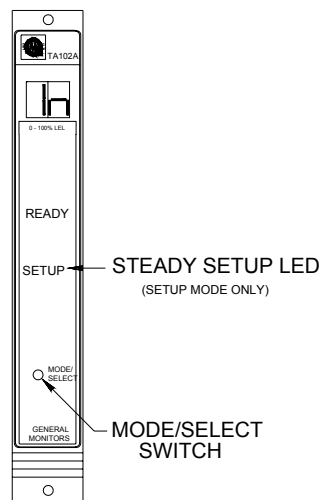

Figure 49 – Entering Inhibit Mode
- If the password option is disabled, or after the correct password has been entered, the display will indicate **In** for five seconds (Figure 49). Pressing the **Mode/Select** switch while **In** is displayed, will cause the unit to enter the **Inhibit** mode by inhibiting the alarm outputs. As the unit enters the **Inhibit** mode, the Model TA102A will automatically return to normal operation. If it is desired to enter the **Setup** Mode, do not press the **Mode/Select** switch for the five seconds that **In** is displayed.